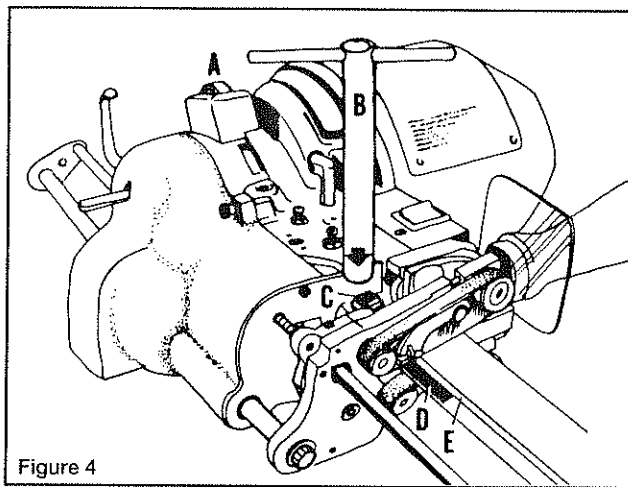

Figure 4
2.6 TO CHANGE BLADE (Figure 4)